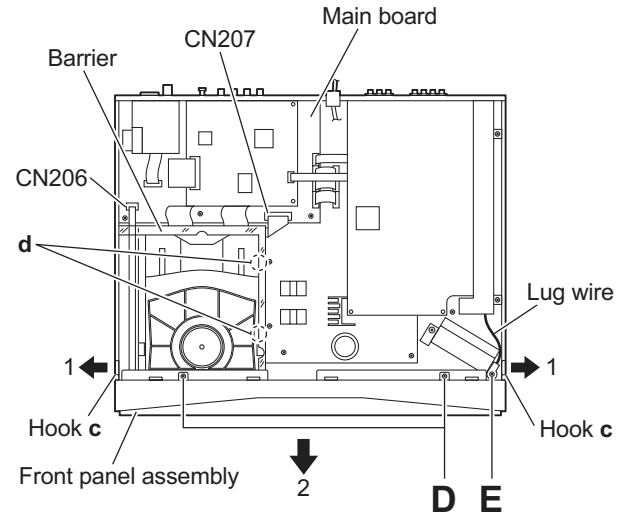

Fig.8
- From the top side of the main body, remove the two screws D attaching the front panel assembly. (See Fig.8.)
- Disconnect the card wires from the connectors CN206 and CN207 on the main board. (See Fig.8.)
- Remove the screw E attaching the lug wire. (See Fig.8.)
- While opening the hooks c to the right and left sides of the front panel assembly in the direction of the arrow 1, remove the front panel assembly in the direction of the arrow 2. (See Fig.8.)
In the assembly, through the card wire in the barrier and then hold the card wire to the sections d of the barrier. (See Fig.8.)